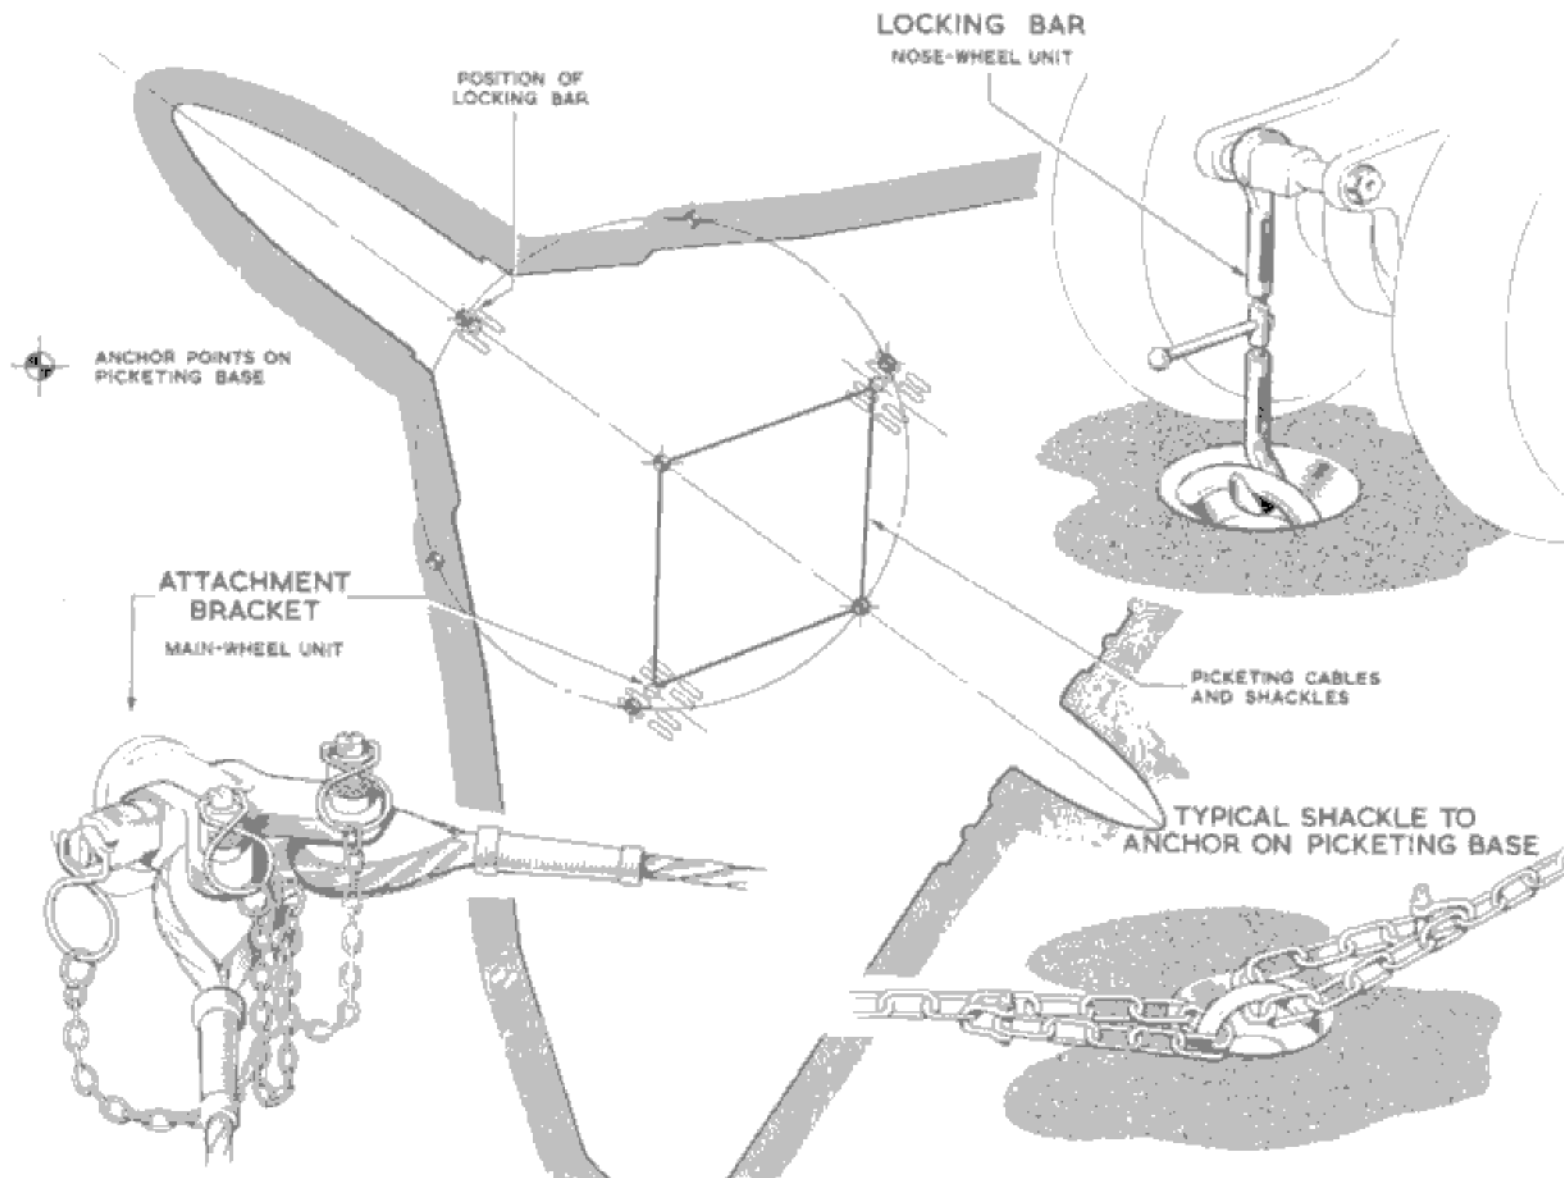

Fig.5. Picketing
anticipated, it is recommended that the aircraft be secured to a picketing base as shown in fig.5.
11. For windspeeds in excess of, 45 knots in icy conditions, 70 knots on wet concrete or asphalt and 80 knots on dry concrete, the main-wheel and nose-wheel units must be secured to a picketing base as shown in Fig.5. Careful manoeuvring of the aircraft will be necessary to position the aircraft correctly over the picketing points. The hook on the nose wheel unit may be positioned on either side of the jacking block, whichever is directly above the picketing point, and the locking bar tightened until it is just in tension. Sufficient slack should be left in the cables to permit the aircraft to ride to the full extension of its alighting gear. When the alighting gear is fully extended the picketing attachment on the main alighting gear is approximately four feet above the ground.